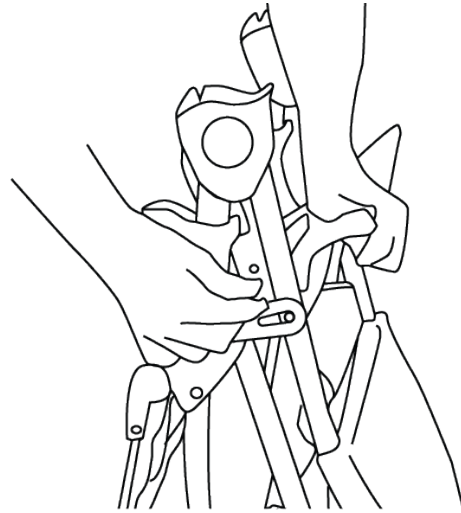

Fig 21b
- Release the fold buttons and move handle downward until the stroller is completely folded. The stroller is in a fully locked position when the locking fold latch is locked over the “T” post, located on the right side of the stroller (Fig. 21b).